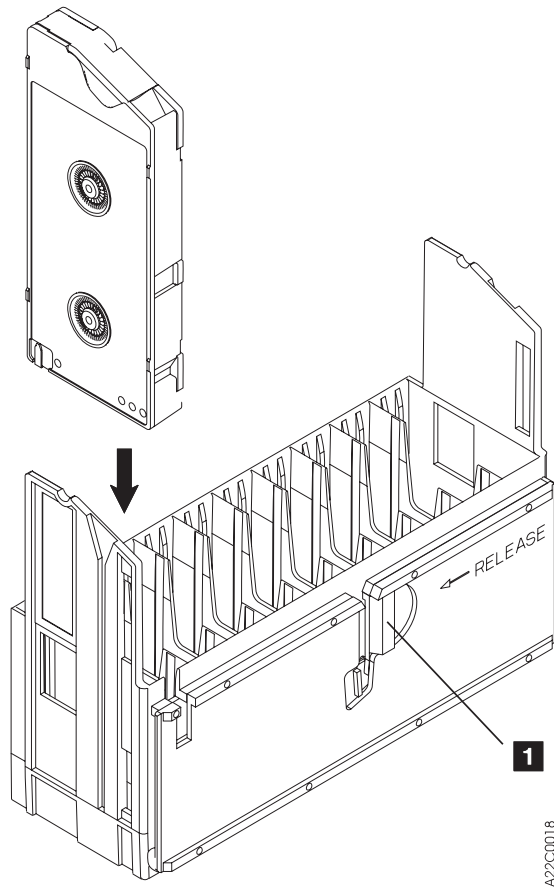

Figure 62. Loading a Cartridge in a Magazine (with the Operator Side Facing Down)
Perform the following steps to load the magazine with cartridges when the magazine is not in the library (see Figure 62).
3. Insert the cartridge in the orientation shown in Figure 62.
3. Slide the cartridge magazine into the magazine opening **3** until it seats fully. The magazine is oriented with its own release latch (see **1** in Figure 62) on the bottom.